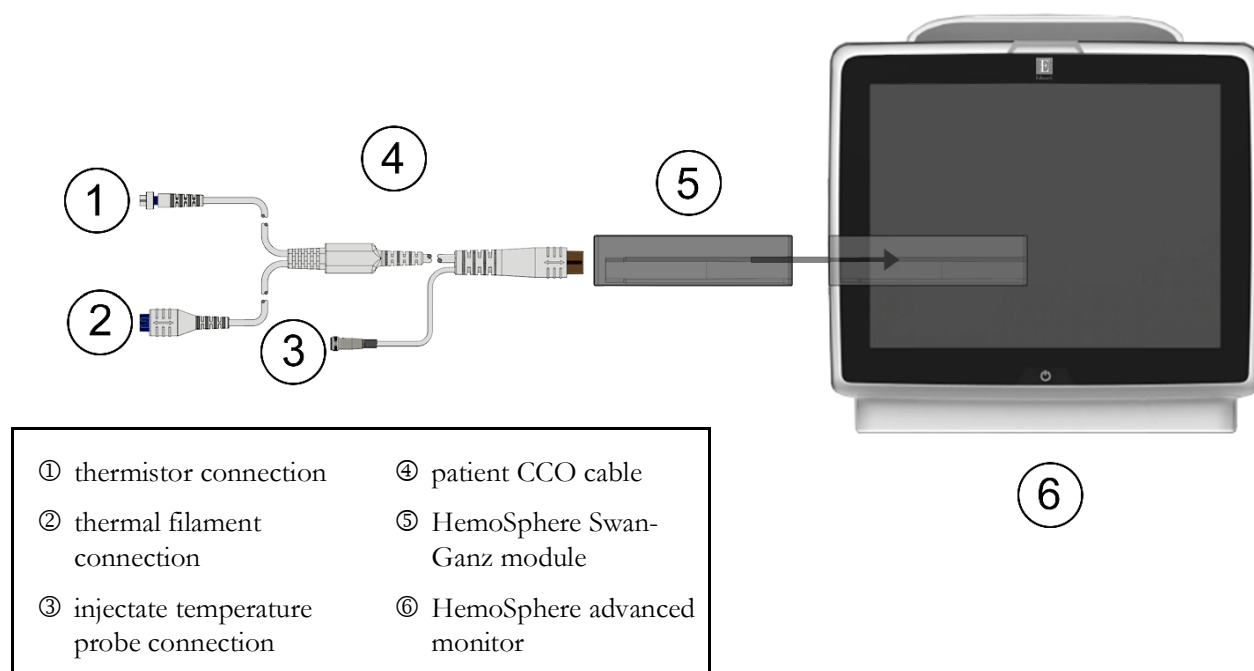

Figure 4-1 HemoSphere Swan-Ganz module monitoring connection overview
Refer to figure 4-1 for HemoSphere Swan-Ganz module monitoring connections.
- 9 Attach the thermistor ① and thermal filament ② Swan-Ganz CCO catheter connections (figure 4-1) to the patient CCO cable.
- 9 Attach the Swan-Ganz catheter thermistor connection (①, figure 4-1) to the patient CCO cable.
- 10 Connect the injectate temperature probe to the injectate temperature probe connector ③ on the patient CCO cable. The injectate system type (in-line or bath) is automatically detected.
- 9** Attach the thermistor ① and thermal filament ② Swan-Ganz volumetric catheter connections (figure 4-1) to the patient CCO cable.